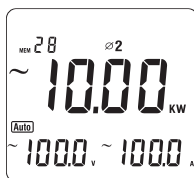

Figure 9
- After sum up the current power measurement value of the first phase, then press **SELECT** to choose the second phase  $\Phi 2$ , as figure 9.
- After sum up the current power measurement value of the first phase, then press **SELECT** to choose the second phase  $\varnothing 2$ , as figure 9.